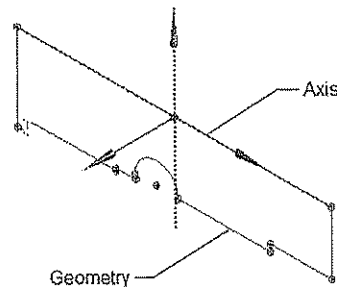

Figure 5-61 The geometry and the axis to be selected
2. Click on the **Apply** button to confirm the sketch as the geometry for the revolved feature. Figure 5-61 shows the geometry and the axis to be selected for the revolve operation.